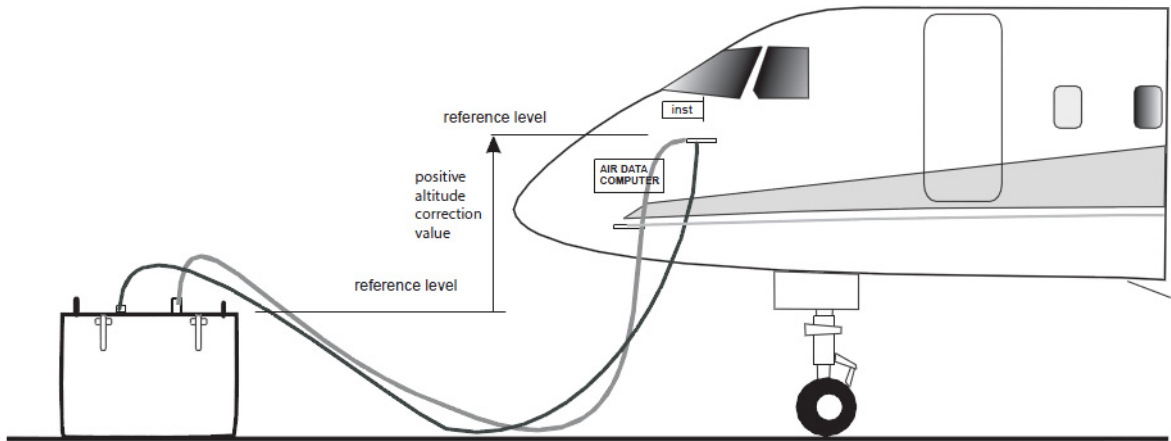

Figure 2-1: ADTS Positioning
- 9) If necessary carry out an altitude correction, see Figure 2-1 also.